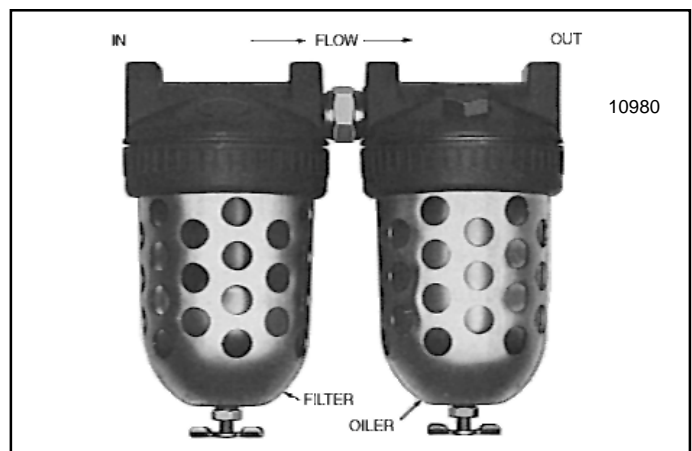

Figure 2-2. Air Filter and Lubricator Unit
- c. A filter and lubricator unit (Figure 2-2) must be installed between air source and air hose leading to hoist. These keep air flowing to hoist free of dirt and add lubricant to air so internal parts of motor are constantly lubricated. Use a good grade of spindle oil, approximate viscosity 180 ssu at 100° F., air powered tool oil, or S.A.E. 10W machine oil. Yale•Lift-Tech distributors can provide filter-lubricator units.